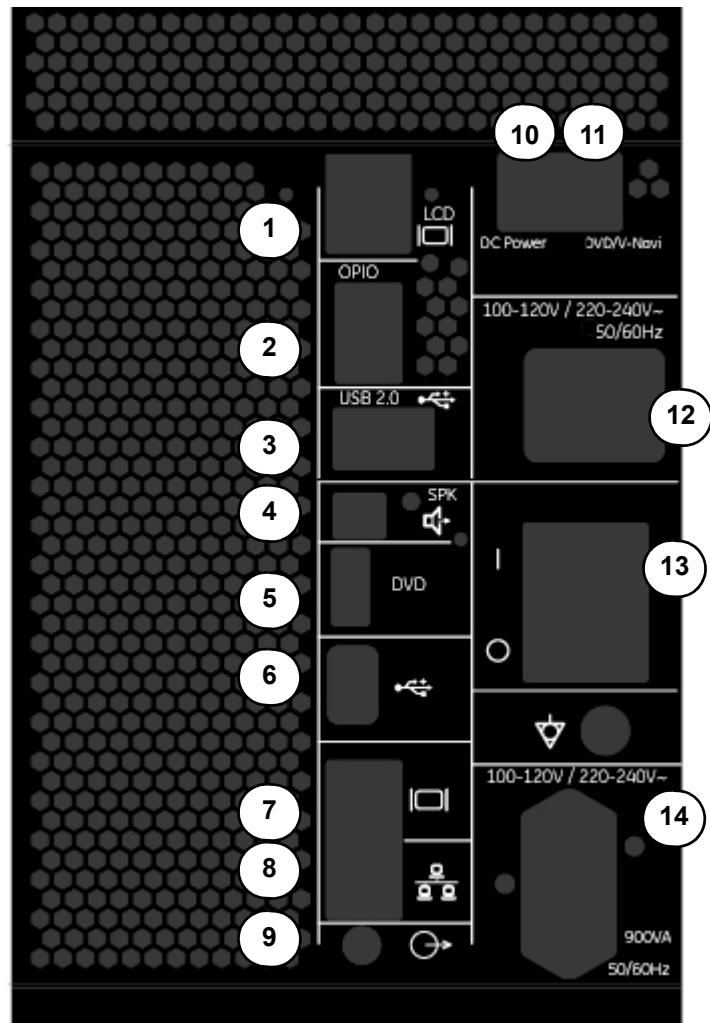

Figure 8-58 Cable Connection
- 2.) Disconnect 2 connectors. (DVD SATA CABLE, DVD POWER CABLE). Refer to the Figure 8-58 below.